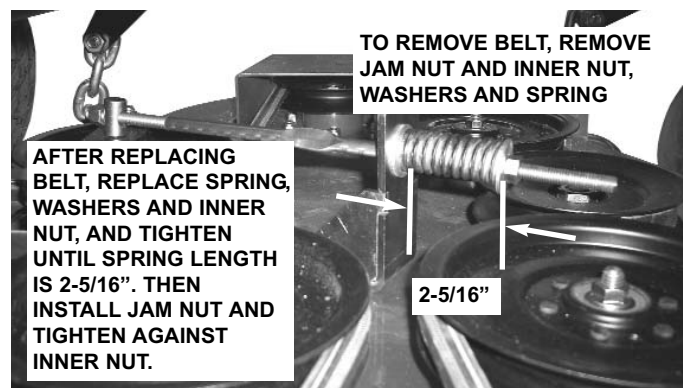

FIGURE 5.13a
2. Remove jam nut, inner nut, washers and spring from front threads of deck idler tensioning rod. See Figure 5.13a. Slip rod out of deck bracket, and swivel deck idler pulley back.
To adjust belt tension, loosen jam nut on deck idler tensioning rod, then adjust inner nut in or out until idler spring measures 2-5/16". See Figure 5.13a. Tighten jam nut against inner nut after adjustment is achieved.